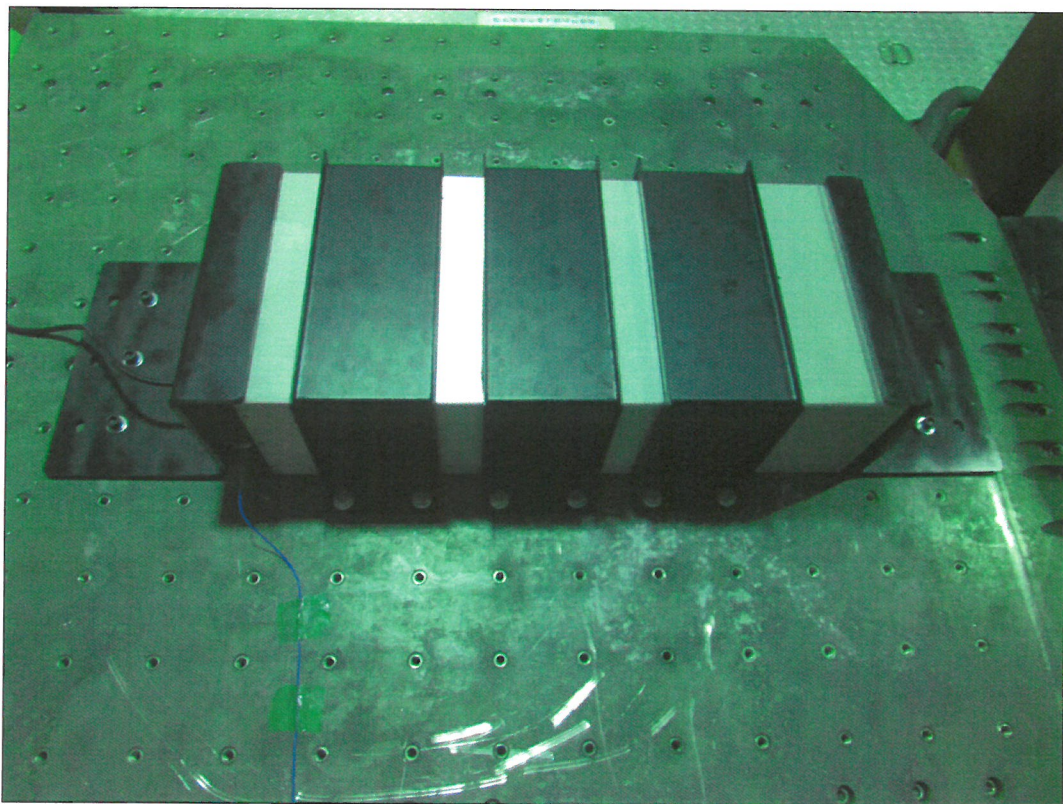

Fig.4 Show the DUT of Y_2 axis vibration test
- Fig.4 Show the DUT of Y_2 axis vibration test.